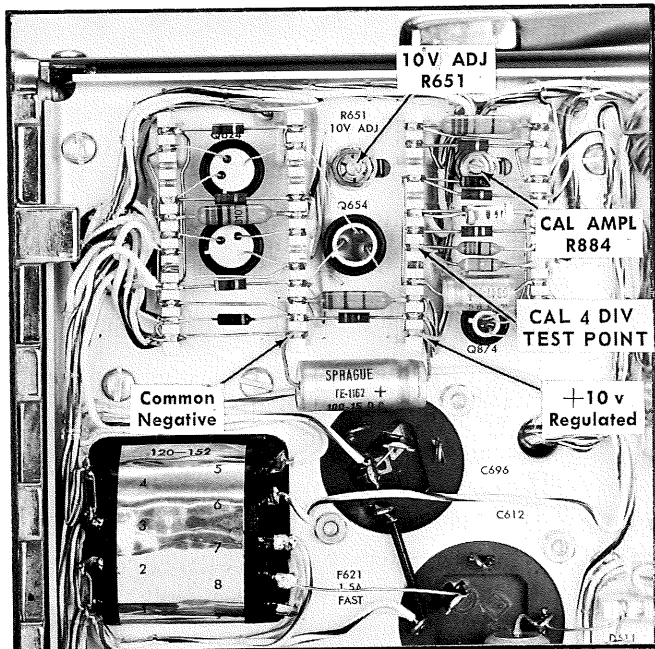

FIG. 6-1. Test point and adjustment locations for preforming steps 1 and 3 (upper left side view).
- Connect a dc voltmeter across the 10-volt regulated supply at the points shown in Fig. 6-1.
- Adjust the 10V ADJ R651 control (see Fig. 6-1) for a reading of exactly 10 volts. Use a voltmeter known to be accurate.
- Adjust the CAL AMPL R884 control (see Fig. 6-1) for exactly 500 mv peak-to-peak vertical deflection of
- d. Connect the 1X probe to the CAL 4 DIV test point shown in Fig. 6-1. Adjust the test oscilloscope for stable display at a vertical deflection factor of 10 mv/cm. The amplitude at this point should be 40 mv,  $\pm 3\%$ .